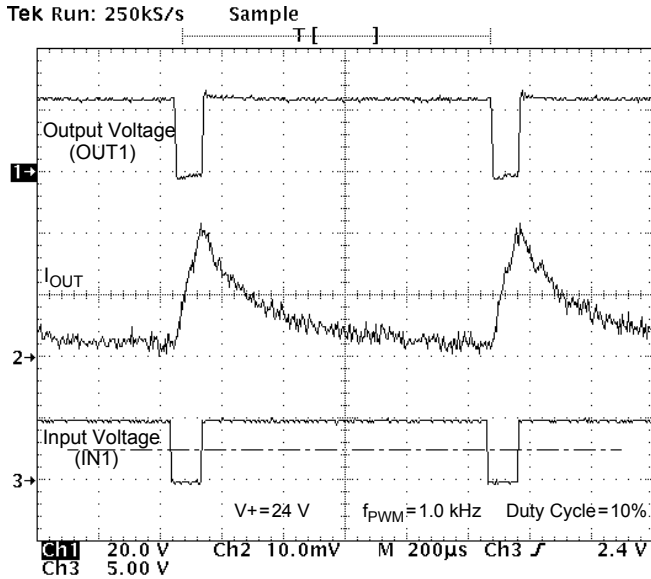

Figure 11. Output Voltage and Current vs. Input Voltage at $V+ = 24$ V, PMW Frequency of 1.0 kHz, and Duty Cycle of 10%
23. The outputs can be PWM-controlled from an external source. This is typically done by holding one input high while applying a PWM pulse train to the other input. The maximum PWM frequency obtainable is a compromise between switching losses and switching frequency. See Typical Switching Waveforms, Figures 11 through 18, pp. 15–16.